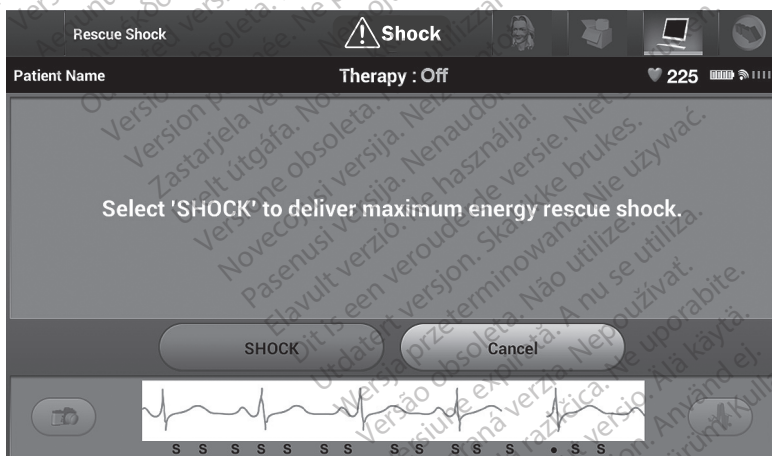

Figure 34. Rescue Shock screen
1. Select either the red Rescue Shock Icon at the top of the programmer screen or the red STAT button  on the Programmer. The Rescue Shock screen appears (Figure 34 Rescue Shock screen on page 53).